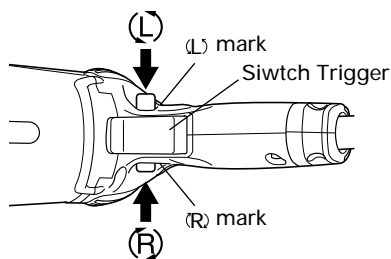

Fig. 7
## 9. Check the rotational direction (Fig. 7)
### (1) Removing chuck from drill (Fig. 7)